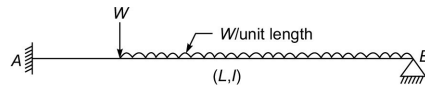

Fig. Q. 41
41. In the beam shown in Fig. Q. 41 support B yields by Δ , the slope deflection equation for M_{BA} is